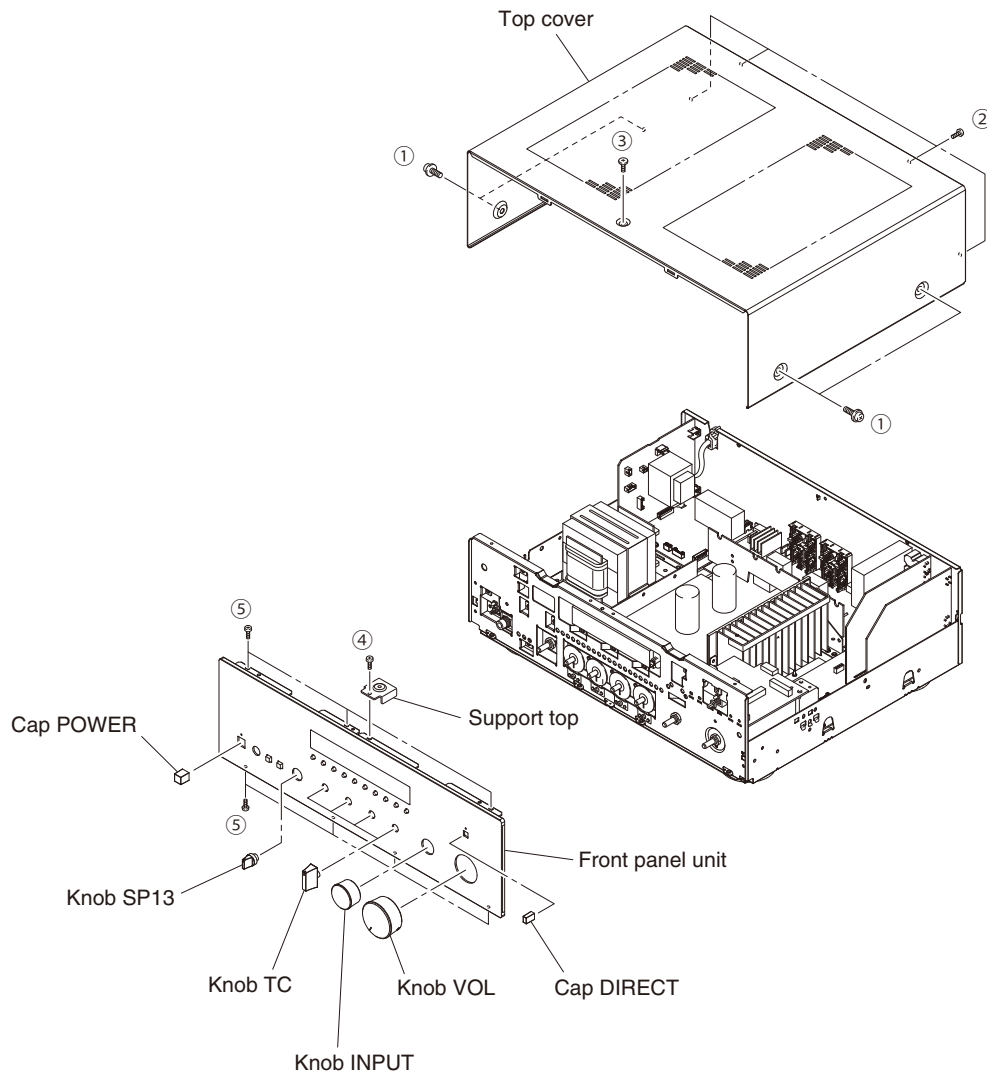

Fig. 1
- a. Remove 4 screws (①), 4 screws (②) and screw (③). (Fig. 1)
- b. Remove the top cover. (Fig. 1)
- a. Remove screw (④) and then remove the support top. (Fig. 1)
- b. Remove the knobs and caps. (Fig. 1)
- c. Remove 7 screws (⑤). (Fig. 1)
- d. Remove the front panel unit. (Fig. 1)